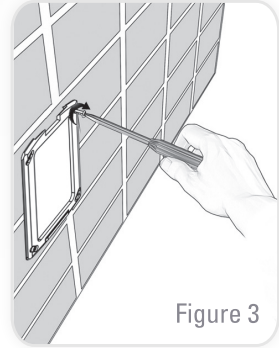

Figure 3
- 10) Assemble the plastic seat for the permanent cover plate using the four screws provided. Figure 3.